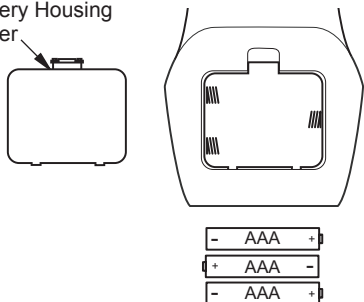

Figure 52 - Battery Install Hand-Held Remote Control
1. Remove battery housing cover from back of hand-held remote (see Figure 52).